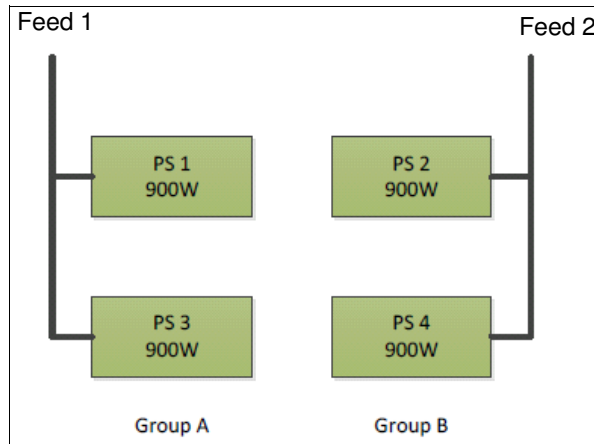

Figure 4-5 Correctly balanced and redundant power
- ▶ Power feeds to Group A and Group B must be different for redundancy (see Figure 4-5).
Figure 4-5 shows a correctly balanced and redundant system with four 900 W power supplies installed that are connected to two separate feeds.